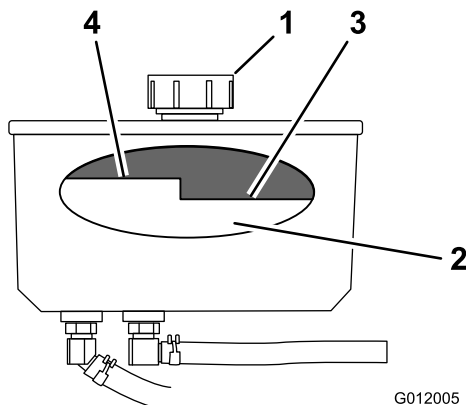

Figure 74
4. Clean area around cap and filler neck of hydraulic tank (Figure 74).
5. Remove cap from filler neck. Look inside to check the fluid level in the reservoir. (Figure 74).
Note: The fluid level should be below the hot level of the baffle, when the fluid is warm (Figure 74).